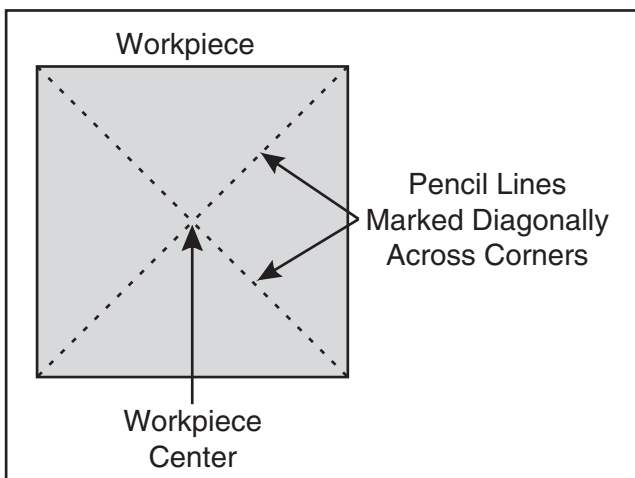

Figure 36. Workpiece marked diagonally from corner to corner to determine the center.
1. Mark both ends of your workpiece by drawing diagonal lines from corner to corner. The intersection point of these lines will show you the center of your workpiece. See **Figure 36** for details.